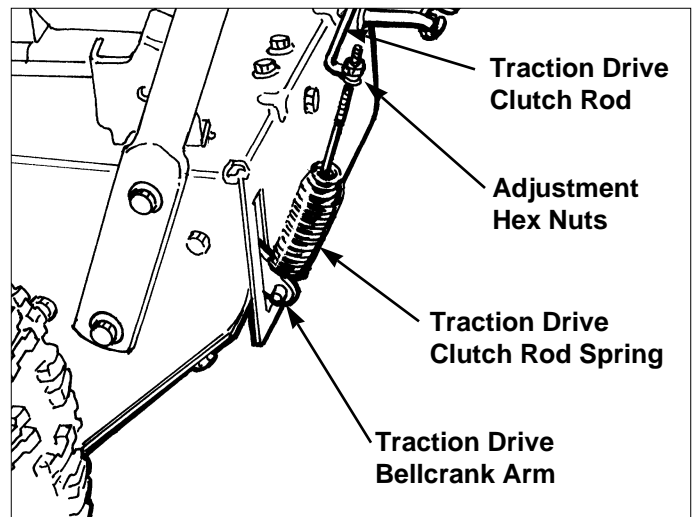

Figure 18. Traction Drive Clutch Rod Adjustment
1. Loosen adjustment hex nuts (Figure 18).